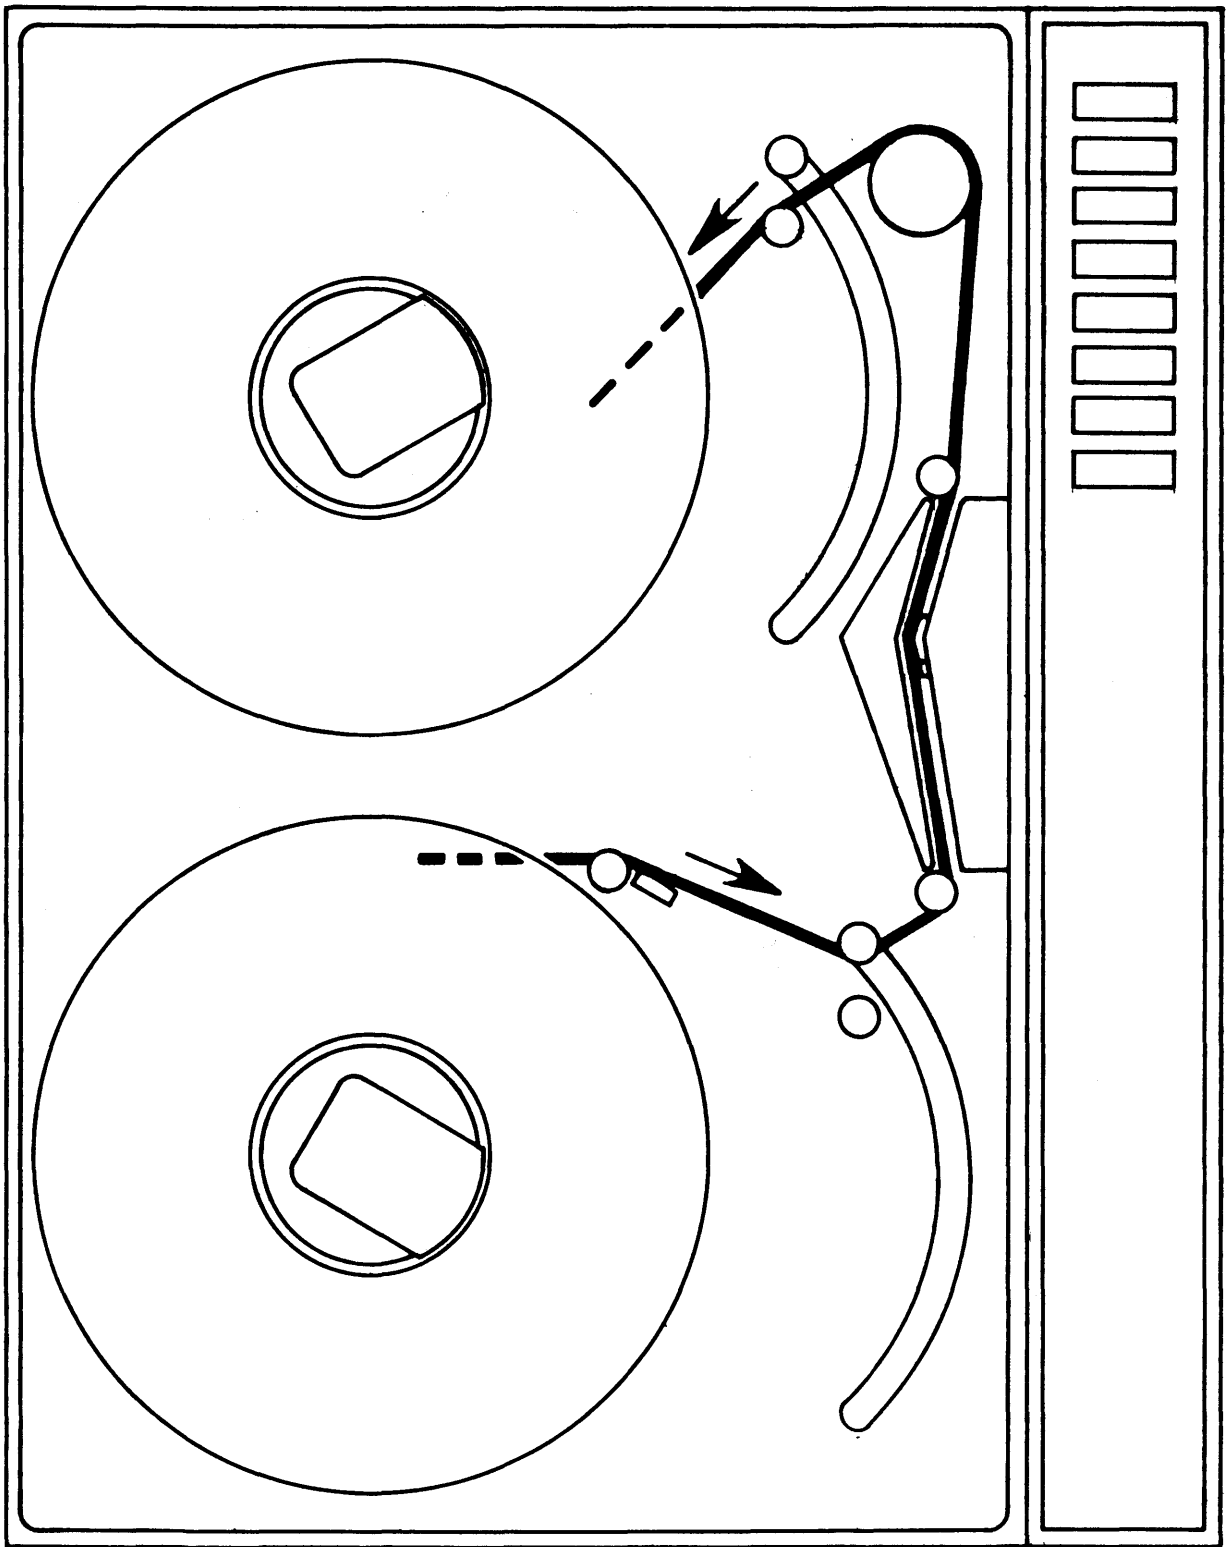

Figure 3-2. Tape-Threading Path
3-6. To load tape, see Figure 3-2 and proceed as follows:
- d. Thread tape along path shown in Figure 3-2. Wrap several turns clockwise around takeup reel. Check that tape is correctly seated on guides and properly threaded through photosensor and head assembly.